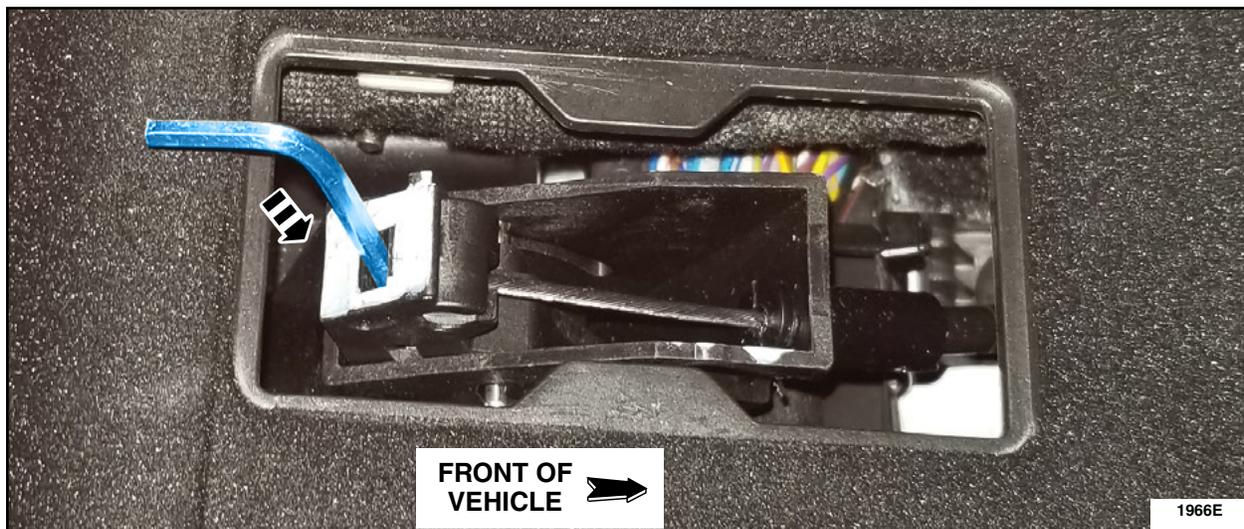

FIGURE 5
6. Insert a 2.37 in (60.19 mm) long - 1/8 in (3mm) Allen wrench into the MPR lever opening. See Figure 5.